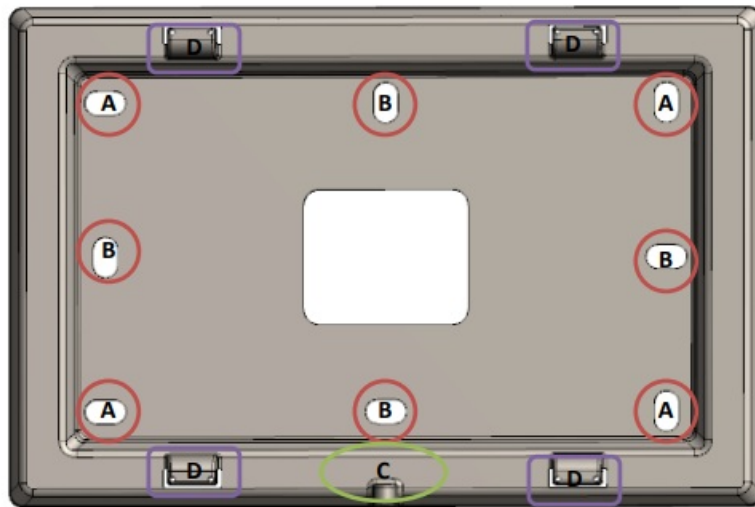
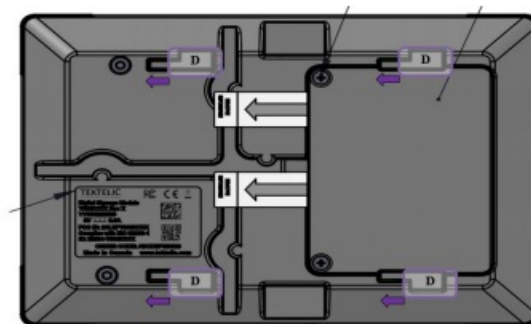

Figure 2-3: Wall mount plate.
Figure 2-4: Tablet back side
- Thread the Ethernet and/or Power cables through the rectangular opening in the wall plate. Ensure that the lock screw feature marked as "C" in Figure 2-3. is facing away from the mounting surface.
- To install the Tablet, first align the hooks on the mounting plate to the slots on the back of the Tablet (See features marked as “D” in Figure 2-3 and Figure 2-4), then push the Tablet onto the plate. Slide the Tablet to fix the Tablet in place.